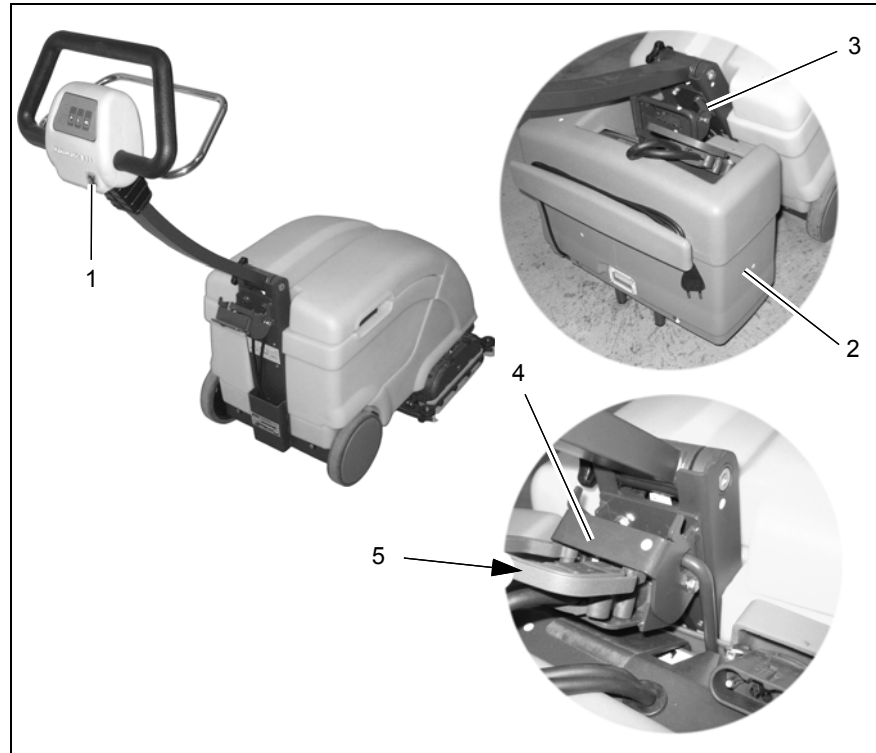

Fig.14
We recommend charging the battery immediately if the battery indicator (Fig. 14/6) on the Hakomatic B10 lights up red during operation. The batteries are charged using the integrated battery charger.
1. Switch off the Hakomatic B10 using the main switch (Fig. 14/1).
2. Pull the Hakomatic B10 against the battery trolley (Fig. 14/2).
3. Tip the machine to the rear until the battery trolley can be installed on the holder (Fig. 14/3).
5. Slide the safety catch (Fig. 14/4) upwards. Plug the battery plug (Fig. 14/5) in the socket on the Hakomatic B10.